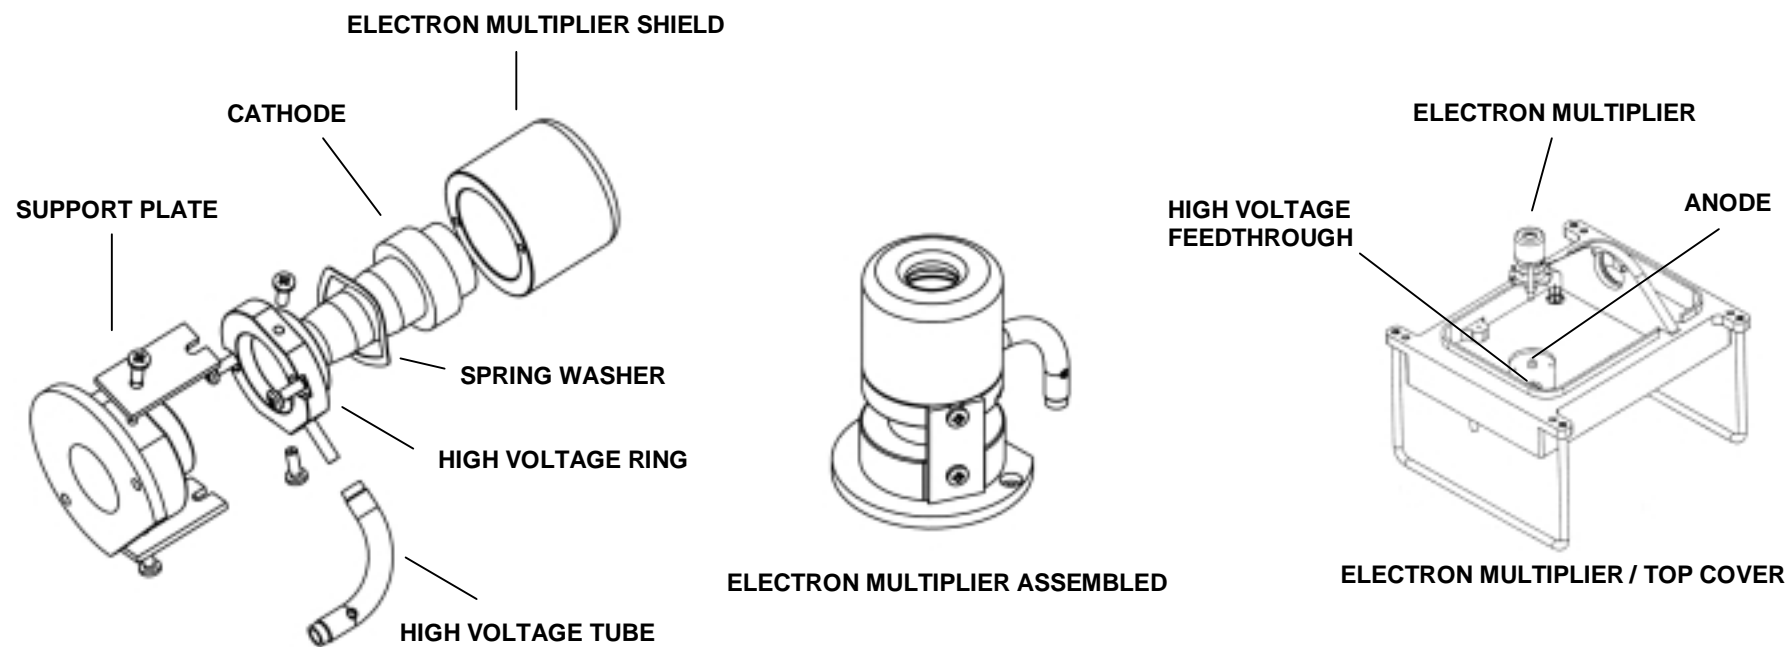

Figure 5-10. Electron multiplier (exploded view, assembled view, top cover view)
5. With one hand hold the high voltage tube and with the other hand hold the electron multiplier support. Then, detach the high voltage tube from the high voltage feedthrough in the top cover plate and remove the electron multiplier as a unit. (The anode remains in the anode feedthrough in the top cover plate.) See Figure 5-10.
10. To replace the cathode, proceed as follows. See Figure 5-10.